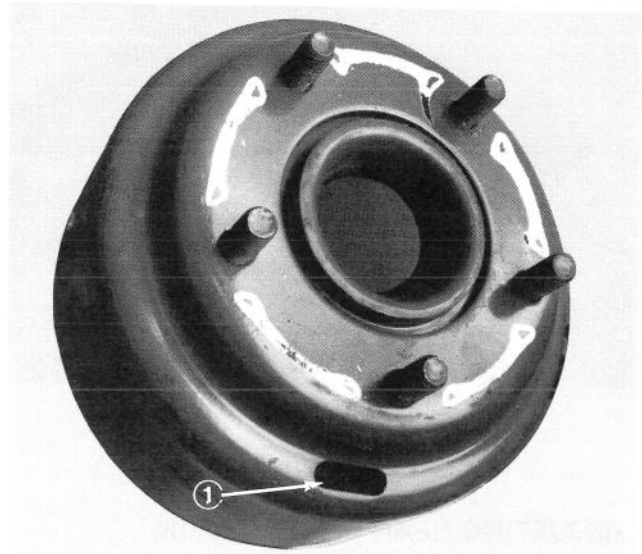
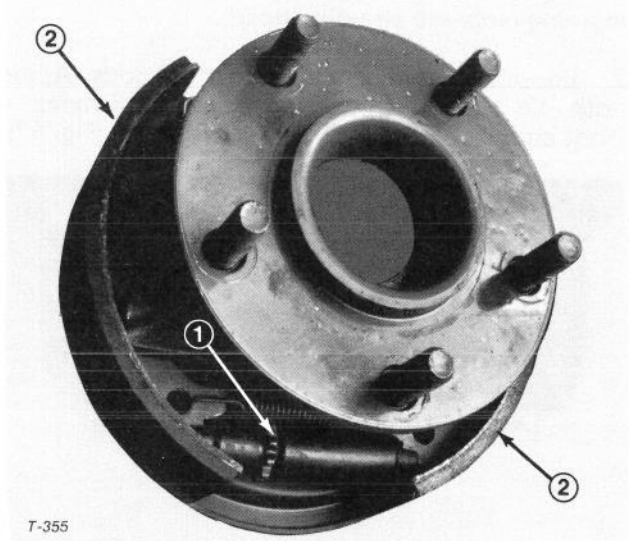

Figure 50
Figure 51
5. Remove wheel nuts and slide wheel and tire assembly off studs. Rotate brake drum until adjusting slot is at bottom and centered over star-nut that adjusts brake shoes (Fig. 50).
6. Using a brake adjusting tool or screwdriver, rotate star-nut (Fig. 50) down until brake drum (Fig. 50) locks because of outward pressure of brake shoes (Fig. 51).